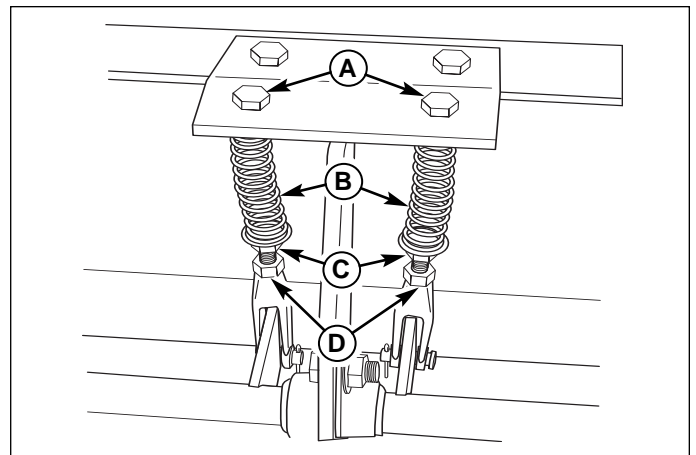

Figure 38. Neutral Spring Return Adjustment
3. Move the ground speed control levers towards the neutral position. If the levers do not align with the notches in the neutral lock plate, it is necessary to adjust the reverse return bolts (A, Figure 38).
1. Loosen the jam nut (D, Figure 38) locked against the clevis.
2. Turn the reverse return bolt (A, Figure 38) clockwise to adjust handle rearward, counter-clockwise to adjust handle forward.
After adjusting the neutral position, lock the levers in the neutral position and measure the reverse return spring (B, Figure 38) length. This should be 2-3/8” long. If not, hold the reverse return bolt (A, Figure 38) with a wrench while turning the spring position nut (C, Figure 38) until the measurement is achieved.